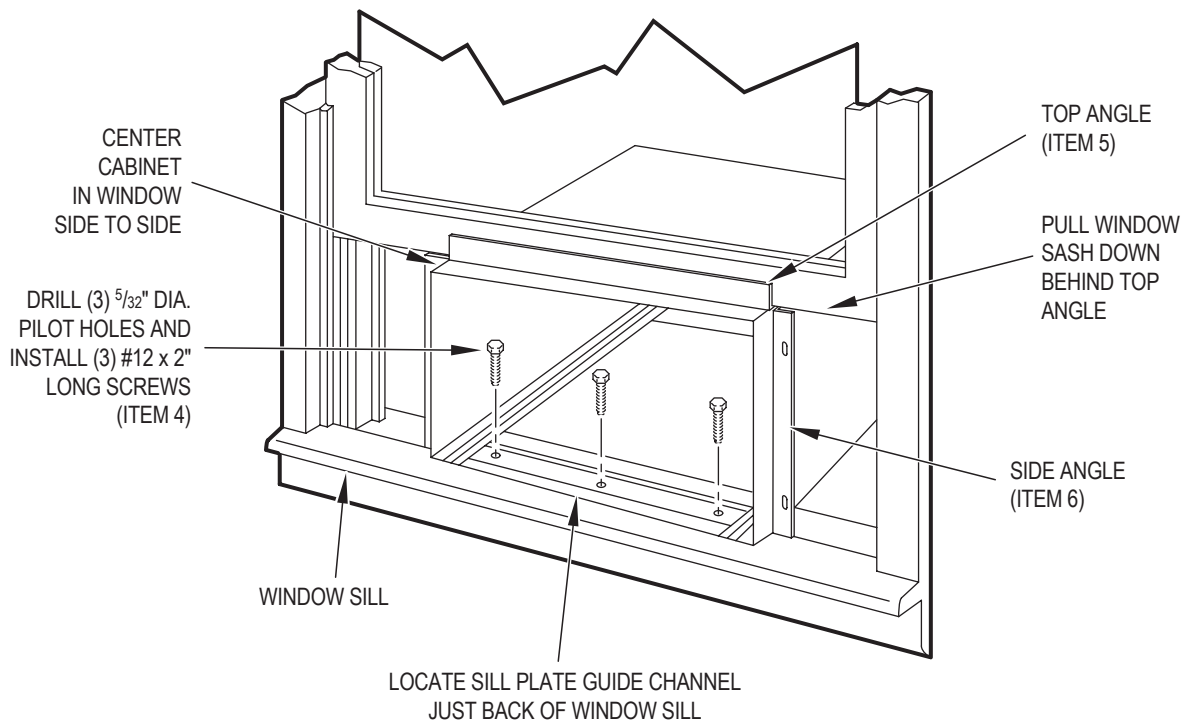

Figure C.4.5
STEP 5. CABINET MOUNTING – Raise the lower window $\frac{1}{4}$ " more than the height of the cabinet. Carefully slide the cabinet through the opening until the lower sill plate channel rests behind the window sill and the top angle rests against the window (see Figure C.4.5). Center the cabinet within the opening. Drill three (3) $\frac{5}{32}$ " diameter pilot holes into window sill using the holes in the cabinet sill plate as a guide. Install three (3) #12 x 2" long screws (Item 4) (see Figure C.4.5).